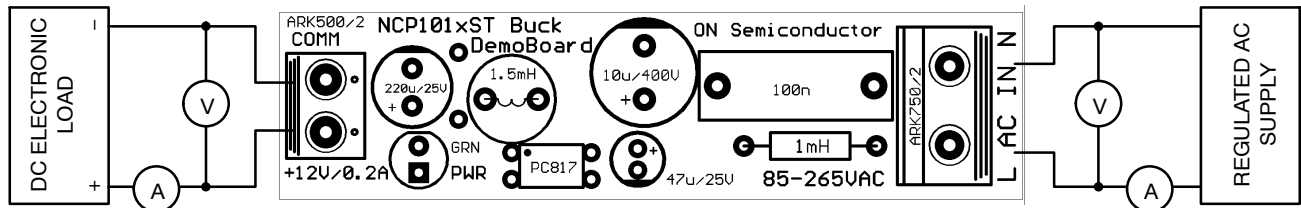

Figure 7. Test Setup
- Connect the test setup as shown in Figure 7.